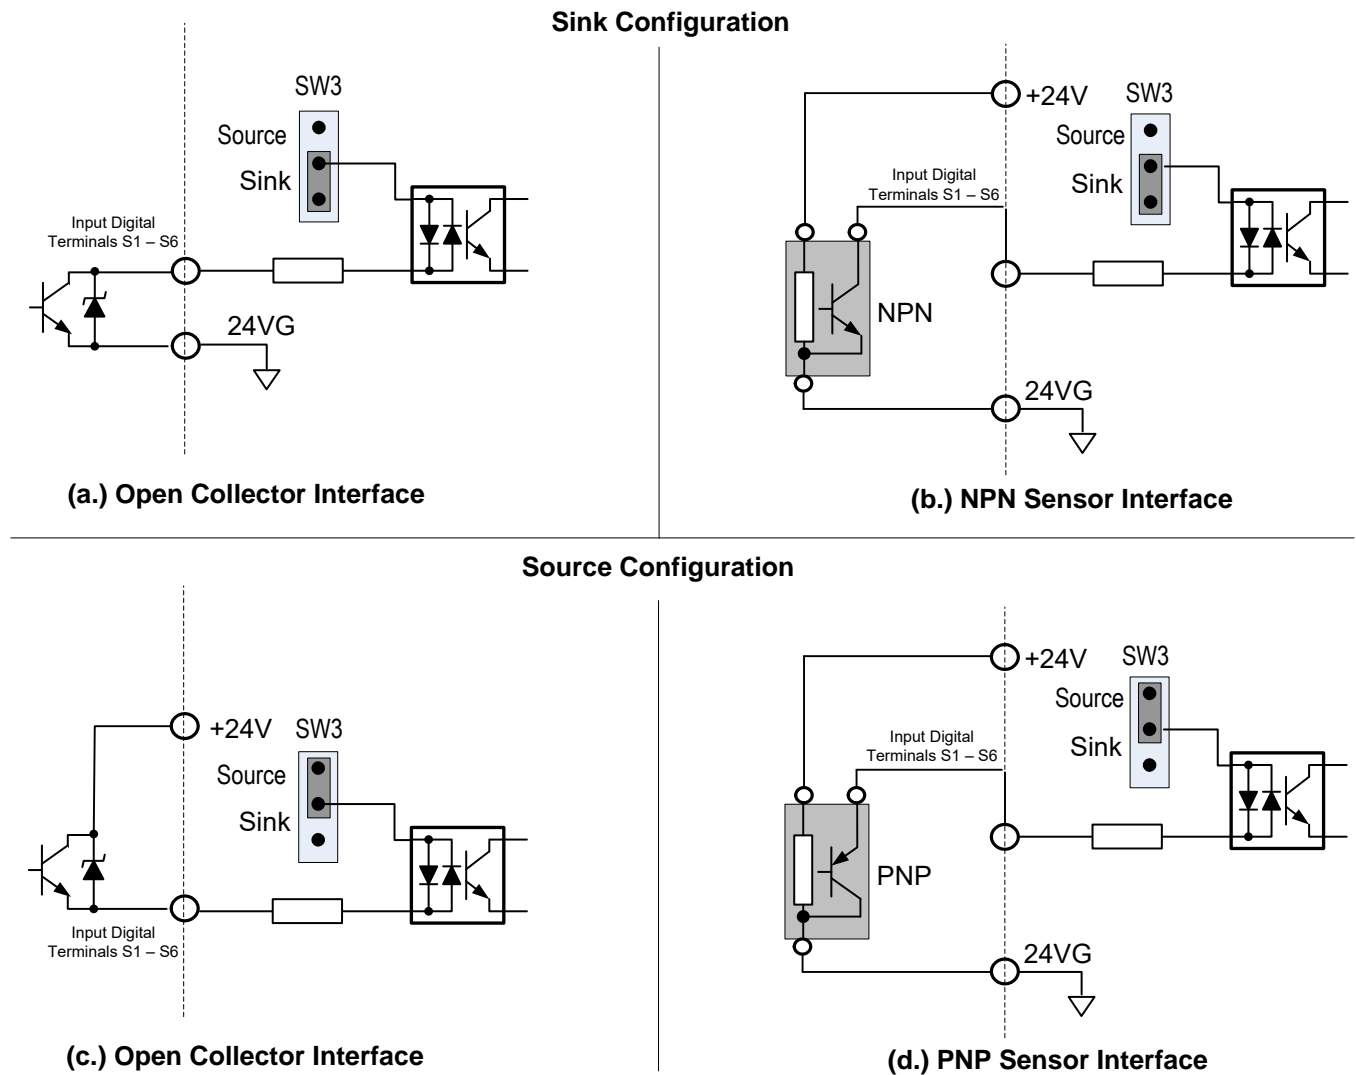

Fig. 3.17.2 Sink / Source Configurations
- (4) In Section 3.8 the control boards referenced have a jumper SW3 that can select the digital input to terminals ① - ⑧ to be set for SINK or SOURCE. The following Fig. 3.17.2 (a.) – (d.) shows examples for the various SINK / Source interfaces.